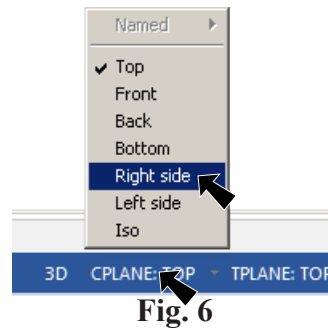

Fig. 6
Step 1. Click **CPLANE** in Status bar at bottom of the graphics window and click **Right side** from the menu, Fig 6.